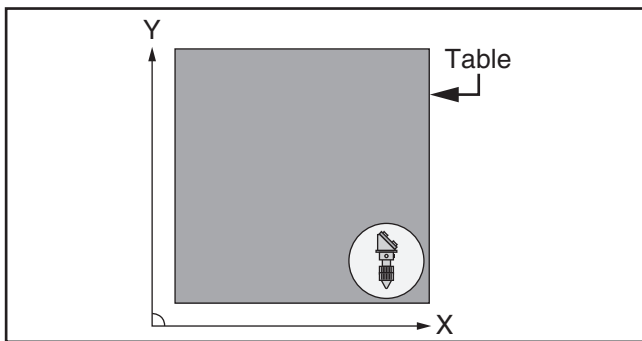

Figure 102. Laser head assembly in lower right corner of table.
26. Move laser head assembly to lower right corner of table (see **Figure 102**).